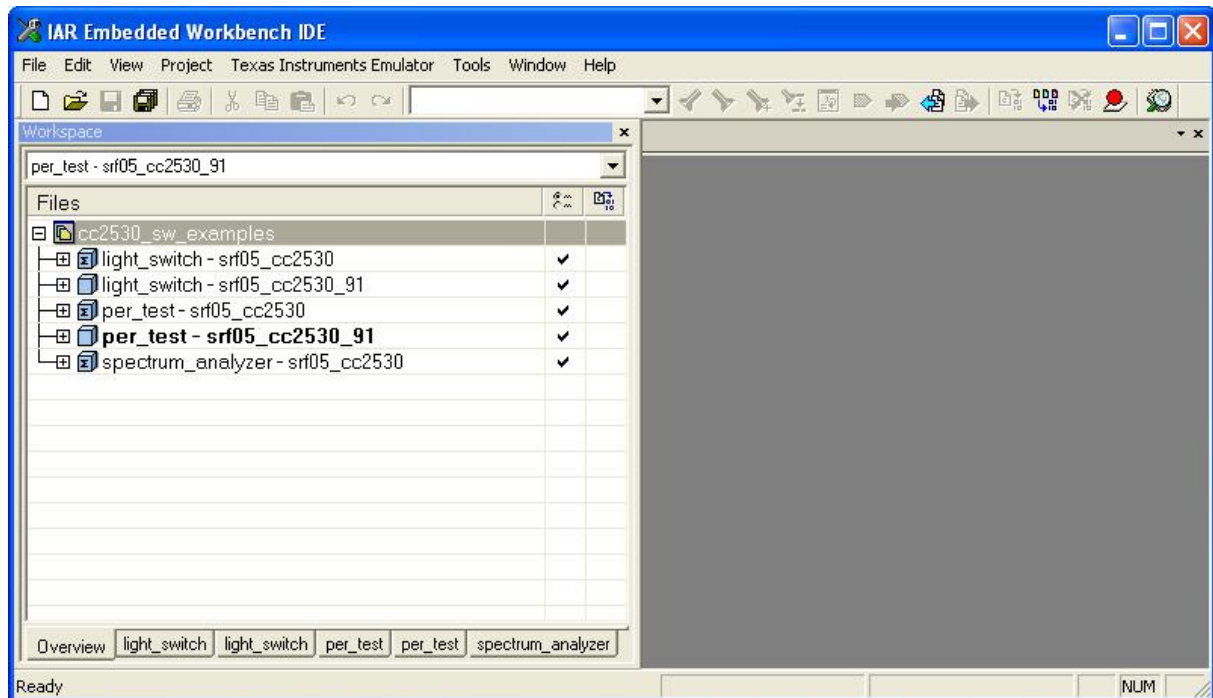

Figure 2 IAR EW
7. Open the workspace file (**CC2530_SW_examples.eww** for CC2530 or **CC2533_SW_examples.eww** for CC2533) with IAR. This file is found in the folder **ide** under the folder where the software examples zip file was unzipped. Figure 2 shows the IAR EW with the workspace opened.